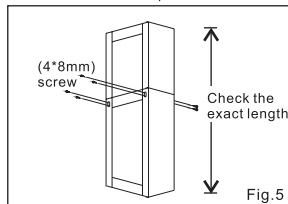

Fig.5
7. Make sure the above step 4,5 and 6, then measure the exact length, slide the telescopic stack then fastened by 8 purchase screw (4x8mm) as provided. (Fig.5)